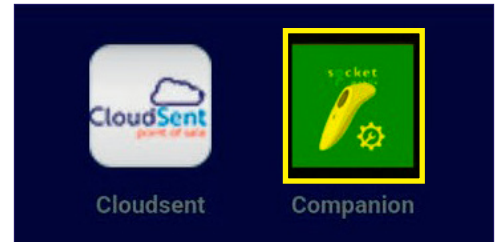

Figure 37
1. On the tablet, launch the Socket Mobile Companion App (Figure 37).